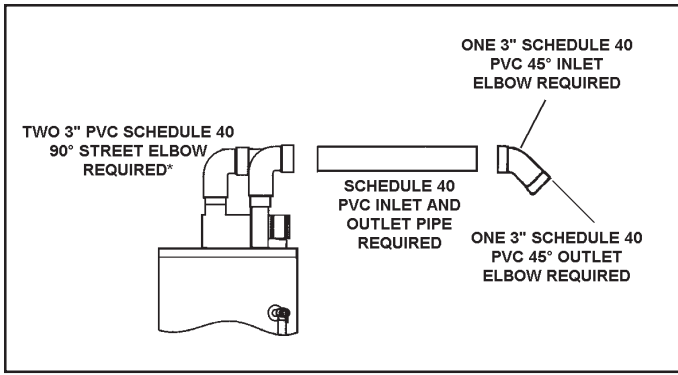

FIGURE 11. STANDARD MODELS.
- B. ALL 50 GAL. (189.3 L) 38,000 AND 40,000 BTU/HR MODELS & 40 GAL. (151.4 L) 36,000 & 40,000 BTU/HR MODELS, SEE FIGURE 11.**